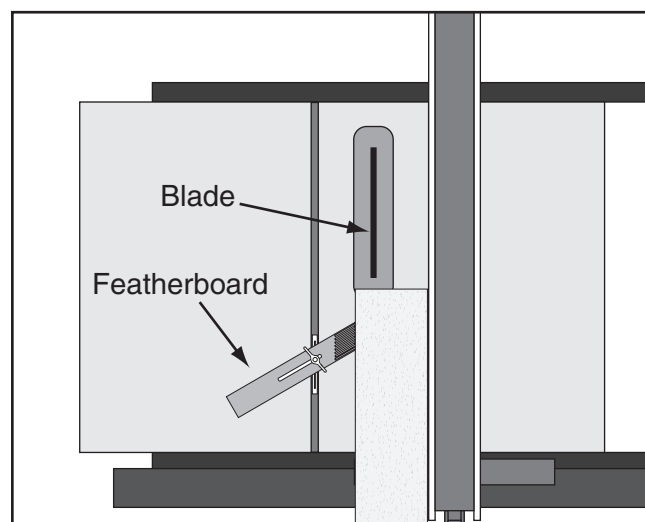

Figure 59. Featherboard installed in miter slot and supporting workpiece for ripping cut.
3. Slide featherboard miter bar into miter slot, making sure fingers slant toward blade, as shown in **Figure 59**.